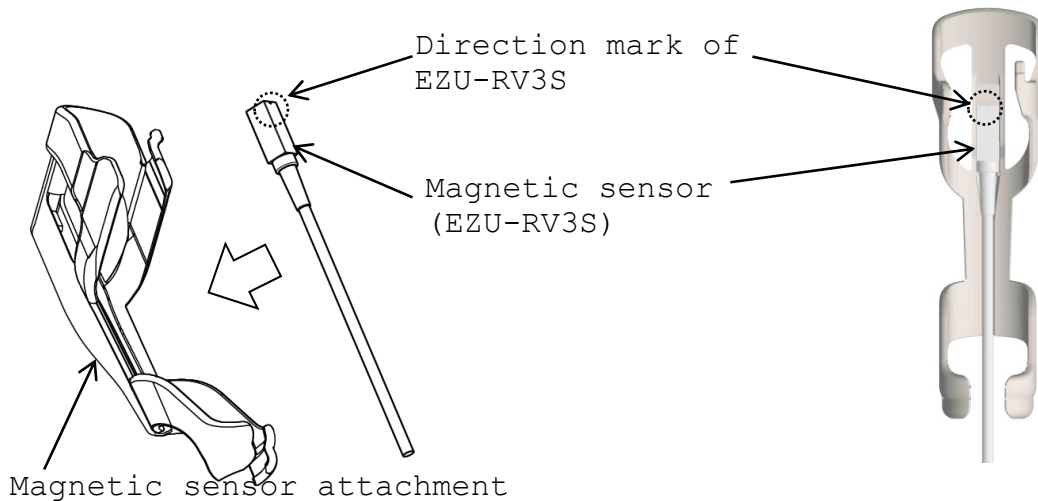

Fig. 14 How to attach the Magnetic sensor
- a) Insert Magnetic sensor into the Magnetic sensor attachment with the correct direction as shown in Fig. 14.